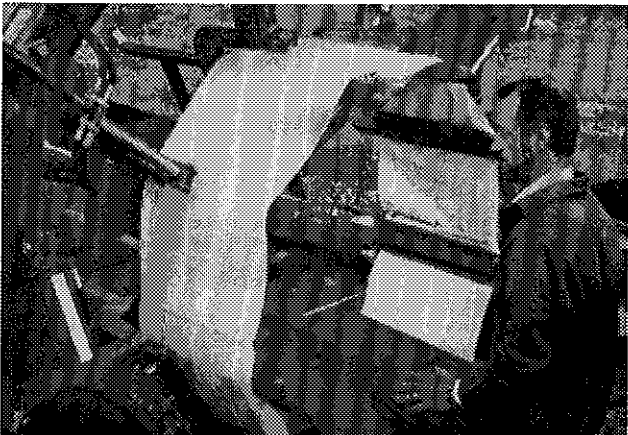

Figure 26
- 6) Again check the tube position (Fig. 26) and eliminate any wrinkles. Next, cut off all ties (Fig. 27).